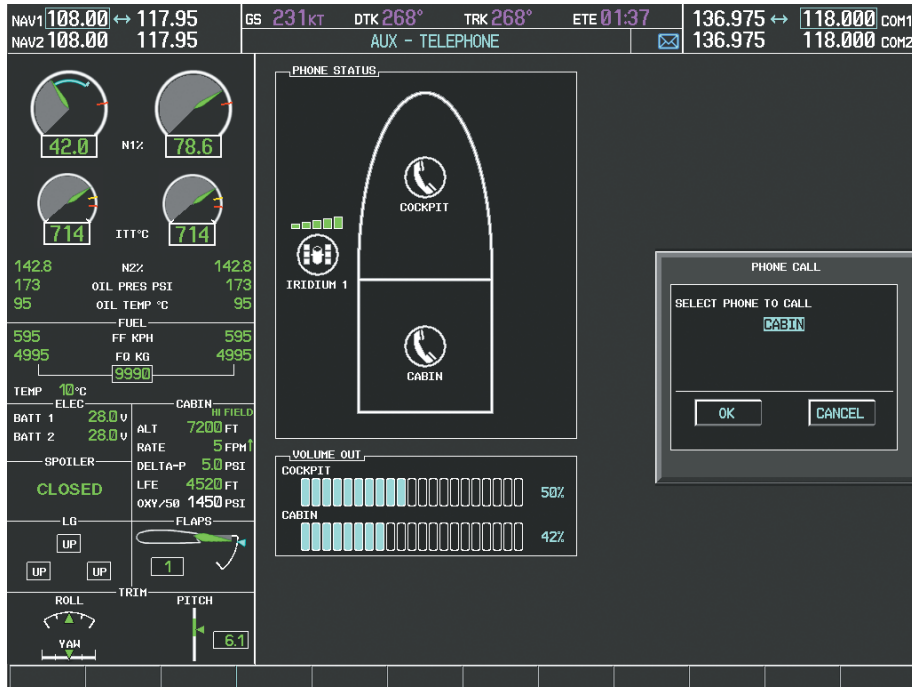

Figure 8-83 Initiating an External Call
- 2) Select the **DIAL** Softkey on the MFD. A display similar to Figure 8-83 will be shown.